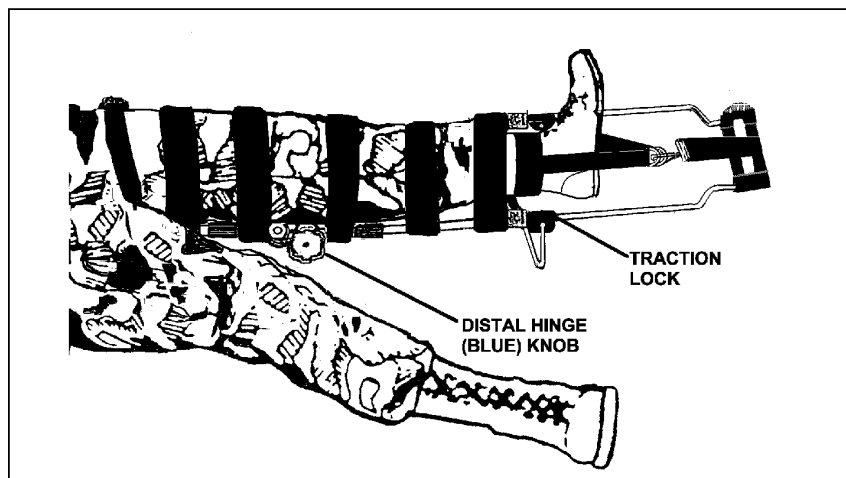

Figure 3-34
10. Position and secure the leg support straps. (See Figure 3-34.)